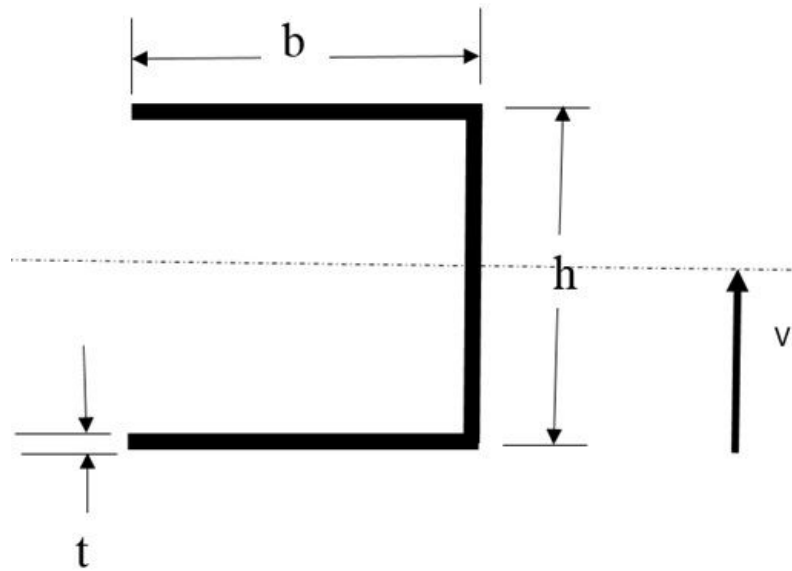

Fig.3
3. Plot the shear flow and shear center location for the section show in figure3.